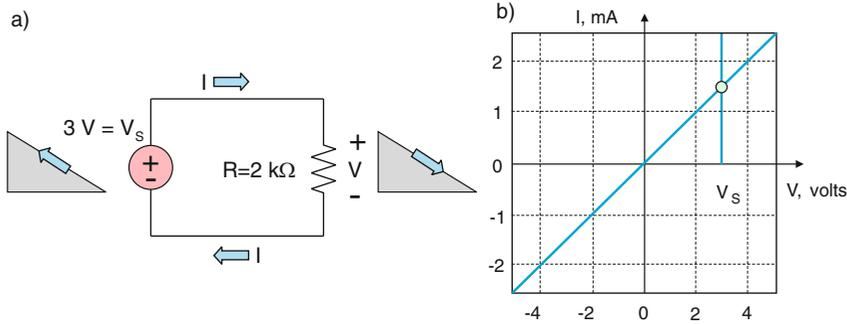

Fig. 2.19. Electric circuit solution in graphical form.
**Example 2.7:** Solve an electric circuit shown in Fig. 2.19—determine circuit current  $I$  and voltage across the resistance  $V$ .